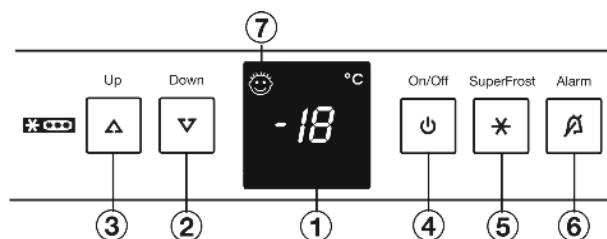

Fig. 2
- ▶ Press On/Off button *Fig. 2 (4)*.
- ▶ To activate the setting mode: press the SuperFrost button *Fig. 2 (5)* for about 5 s.
- ▶ Using the Up setting button *Fig. 2 (3)* or Down setting button, *Fig. 2 (2)*, select h .
- ▶ To confirm: briefly press the SuperFrost button *Fig. 2 (5)*.
- ▶ To make the display brighter: press Up button *Fig. 2 (3)*.
- ▶ To make the display darker: press Down button *Fig. 2 (2)*.
- ▶ To confirm: press SuperFrost button *Fig. 2 (5)*.
- ▶ To deactivate the set-up mode: press On/Off button *Fig. 2 (4)*.